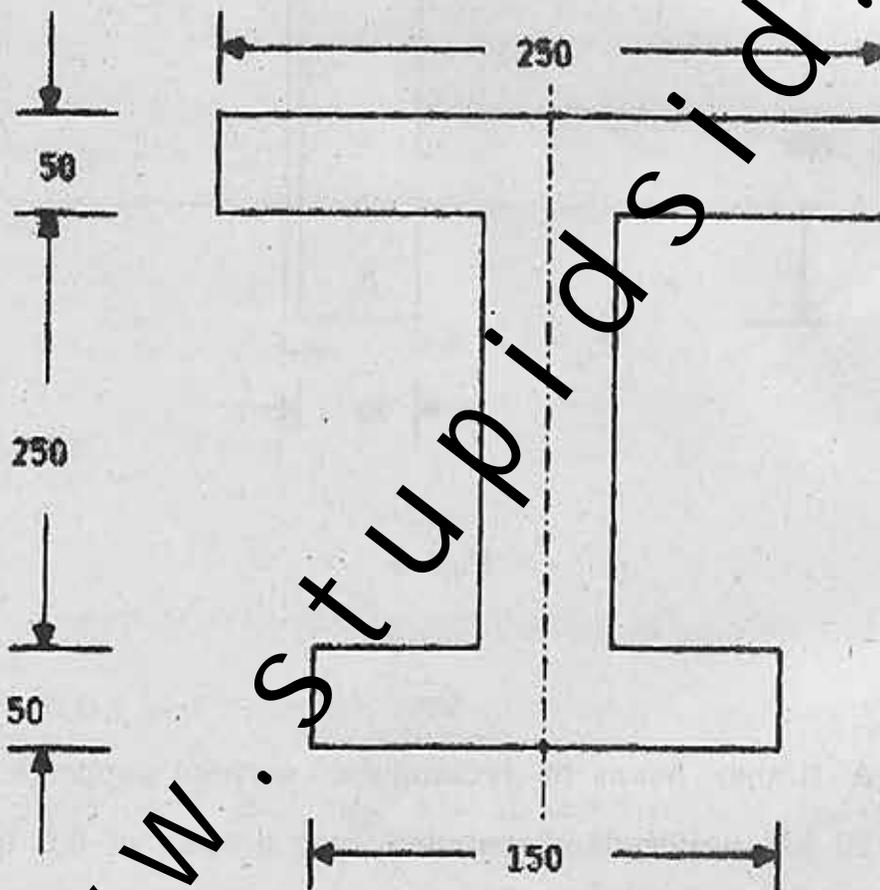

Fig. 6
- (b) A cast iron bracket subjected to bending, has a cross-section of I-shape with unequal flanges as shown in Fig. 6. If the compressive stress in top flange is not to exceed 17.5 MPa, what is the bending moment, the section can take? If the section is subjected to a shear force of 100 kN, draw the shear stress distribution over the depth of the section. [10]